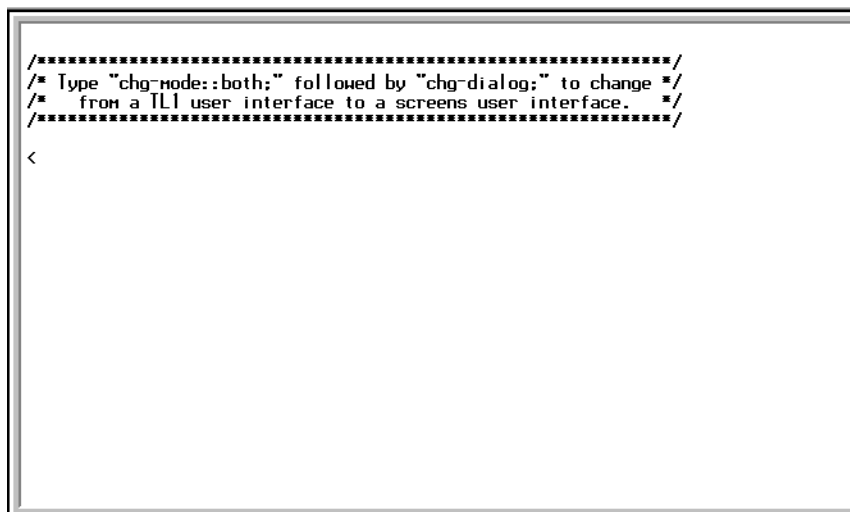

Figure 17. Changing from TL1 mode to Screens Mode
- 2 type `chg-dialog;` as shown in Figure 17, then follow step 3 as previously shown in “Logging On” on page 25.